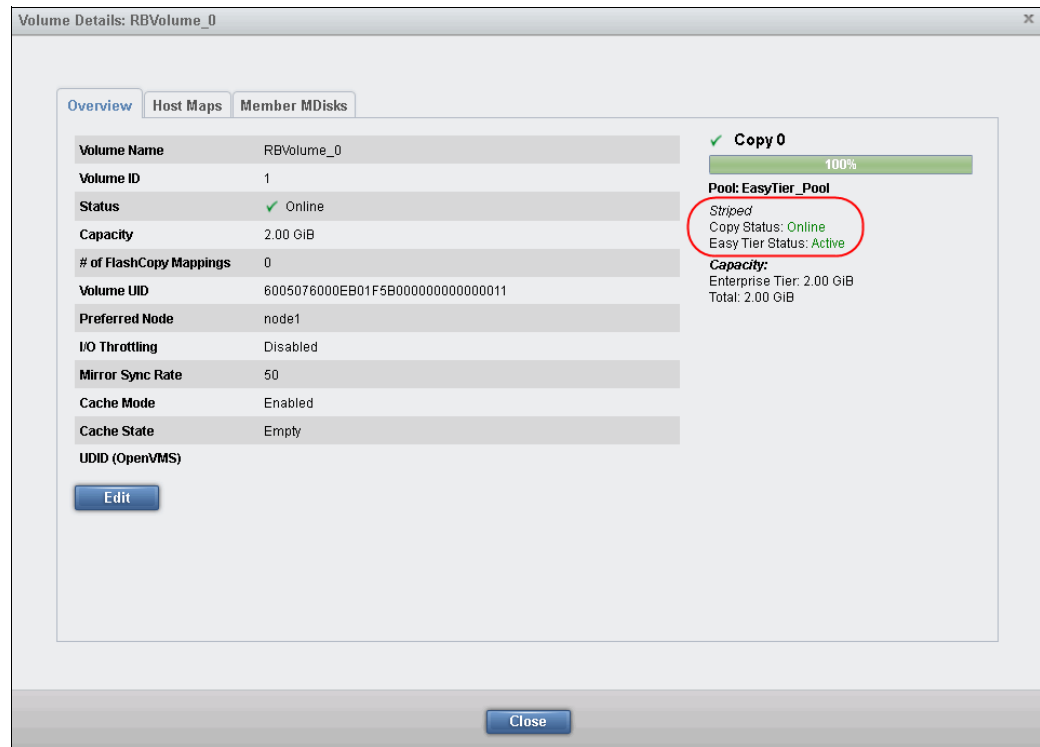

Figure 9-23 Easy Tier enabled volume
10. If you open the properties of a volume by clicking **Actions** → **Properties**, you can also see that Easy Tier is enabled on the volume, as shown in Figure 9-23. Volumes inherit the Easy Tier state of their parent pool.